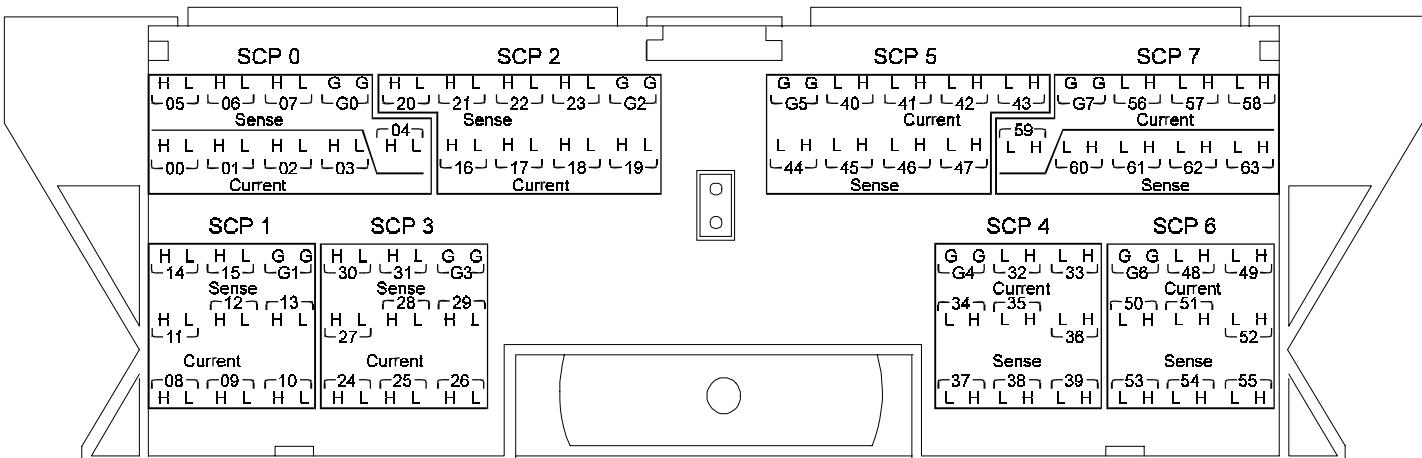

Figure 5 HP E1413A/B Terminal Module Connections
- No label sheet is included for HP E1413A/B connector module. In this case follow the terminal module connection diagram in Figure 5.